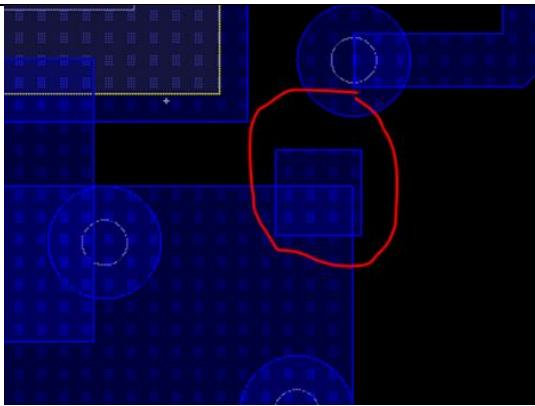

Figure 43 Fiducials must not touch any metal (example rule violation)
- All fiducials must not touch any other metal. Figure 43 shows an example violating this rule.